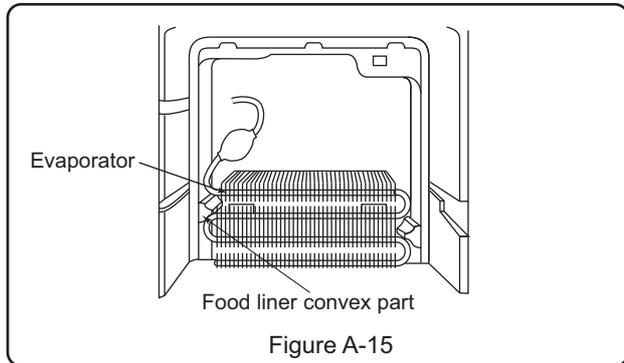
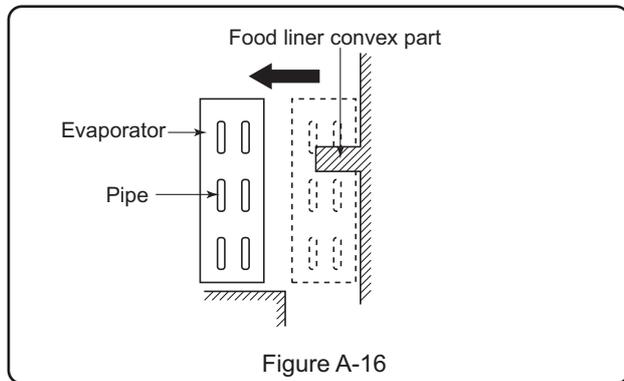

Figure A-15
Figure A-16
3. As shown in Figure A-15, pull the upper part of Evaporator toward you, pull it diagonally so that the pipe of Evaporator does not contact the convex part of food liner.
4. Pull the Evaporator for remove as shown in Figure A-16.
1. Install Evaporator as shown in Figure.A-15 in the reverse order of Figure.A-16.